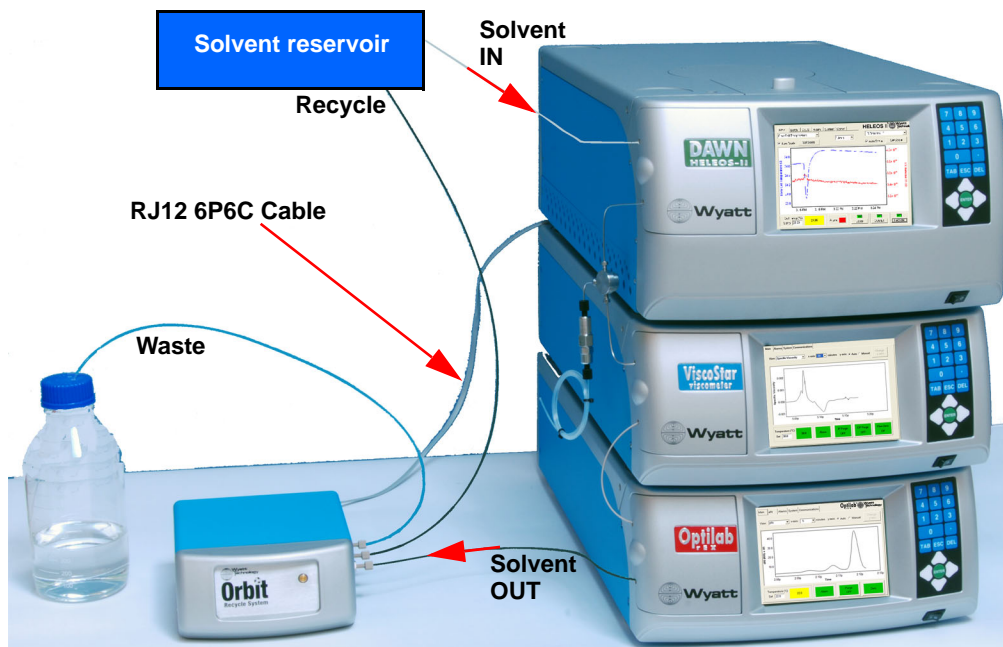

Figure 2-1: Orbit with Instruments
1. In order to facilitate plumbing, it is recommended that you place the Orbit to the left of the last instrument in the flow path (see Figure 2-1). If you are using a third-party instrument, refer to “Using the Orbit Recycle System with Third-party Instruments” on page 2-6.